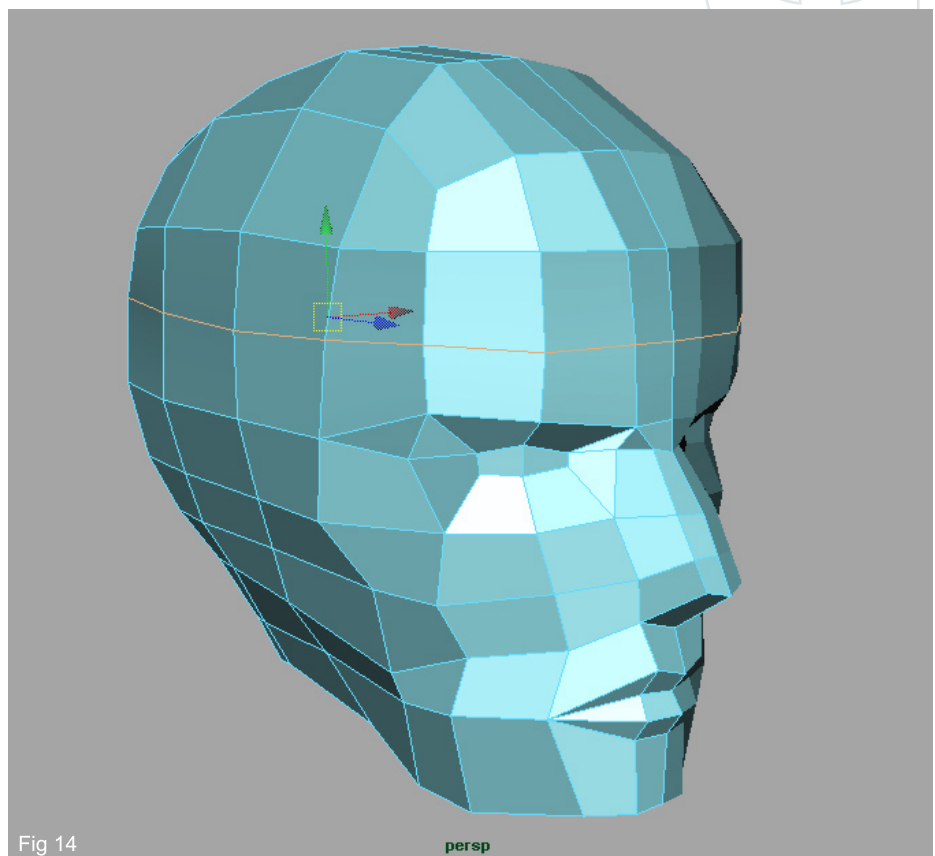

Fig 14
14. With the extra room now on the forehead split in a new edge around the whole head. Start shaping your forehead into a more convincing shape. Again, a good reference image of a skull is going to be an asset here. (Fig 14)